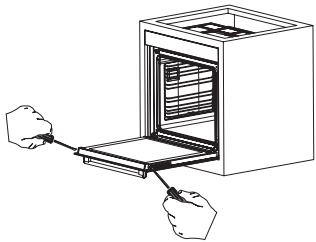
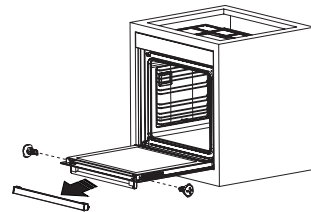
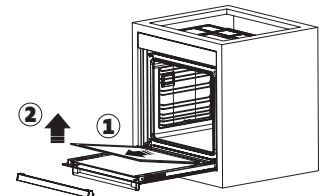

Figure 141
Figure 142
Figure 143
2. Remove the screws on the left and right side as shown in Figure 141. Remove the profile by pulling it towards you as shown in Figure 142. Glass is free after the profile is removed as shown in Fig. 143. Carefully pull the glass that has become free toward you. If necessary, the central glass can be removed in the same way. The outer glass is fixed to the oven door profile. You may easily clean the glass after it has been separated. Once the cleaning and maintenance is complete, you may replace the glasses and the profile by performing the removal procedure in reverse. Make sure that the glass is inserted in the correct direction and that the profile fits properly.